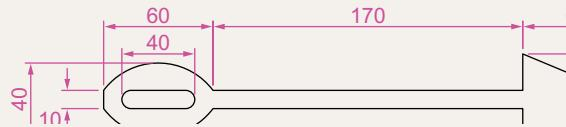

Fig. 3.53 Exercise 10
10. Construct Fig. 3.53 using the **Line** and **Arc** tools. Then change all widths of lines and arcs to a width of **2** with **Polyline Edit**.